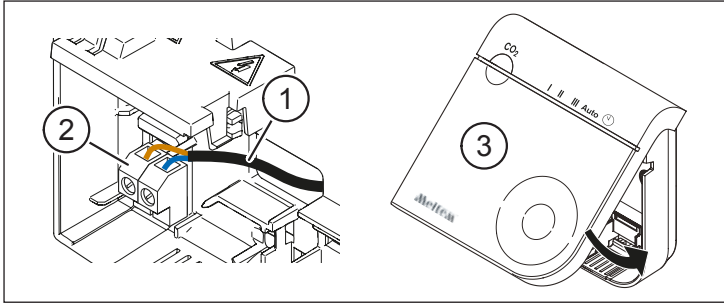

Fig. 4: Connecting the mains cable and attaching the cover
- ▶ Connect the mains cable (item 1 in Fig. 4) to the terminals (item 2 in Fig. 4).
- ▶ Insert the tabs on the cover (item 3 in Fig. 4) into the cutouts in the housing.